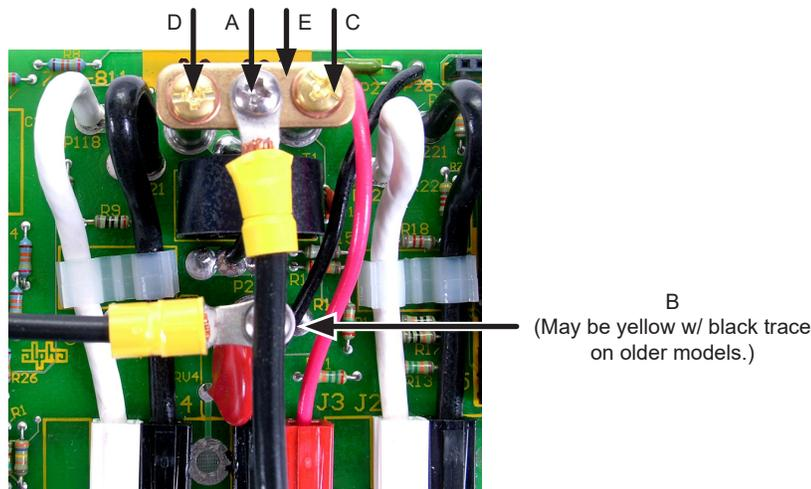

Fig. 1, PDB Connections
3. Use a right-angled (90°) Phillips-head screwdriver to remove the fuse wire (A). This wire may be connected to the power distribution board (PDB) by either a standoff (Fig. 1) or "Fast-On" connector.
4. Remove the transformer wire (B). This wire may be connected to the PDB by either a standoff (Fig. 1) or "Fast-On" connector.
5. Remove the factory-installed bus bar (E) between standoffs P13 (D), and P16 (C).